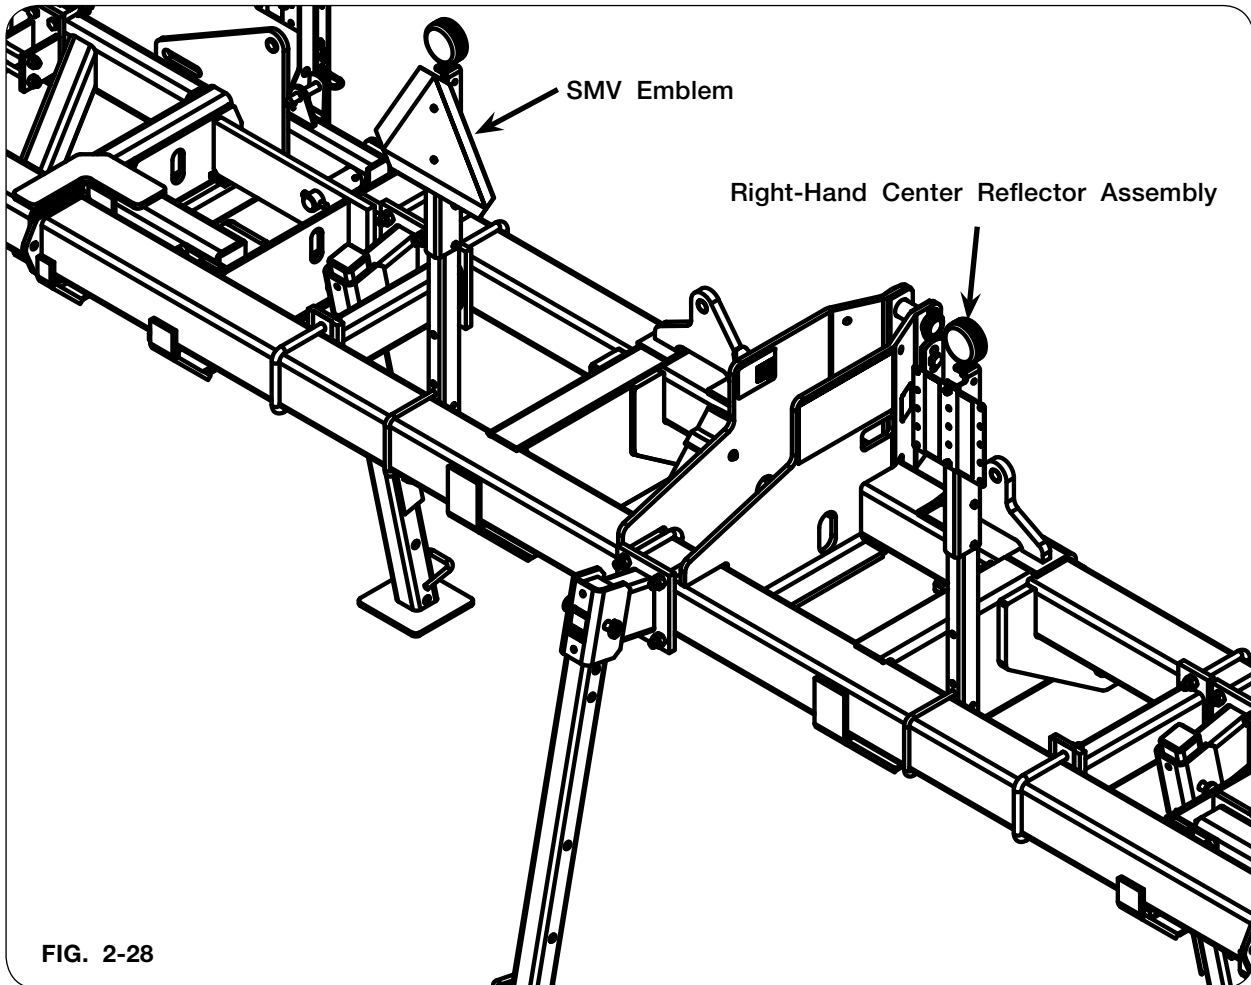

FIG. 2-28
4. Attach the SMV assembly to the left-hand side of the frame with a 1/2"-13UNC U-bolt (9005460) and 1/2"-13UNC locknuts (9800) (FIG. 2-28). Refer to the OVERHEAD LAYOUTS for proper placement.
5. Attach the right-hand center reflector assembly to the right-hand side of the frame with a 1/2"-13UNC U-bolt (9005460) and 1/2"-13UNC locknuts (9800) (FIG. 2-28). Refer to the OVERHEAD LAYOUTS for proper placement.